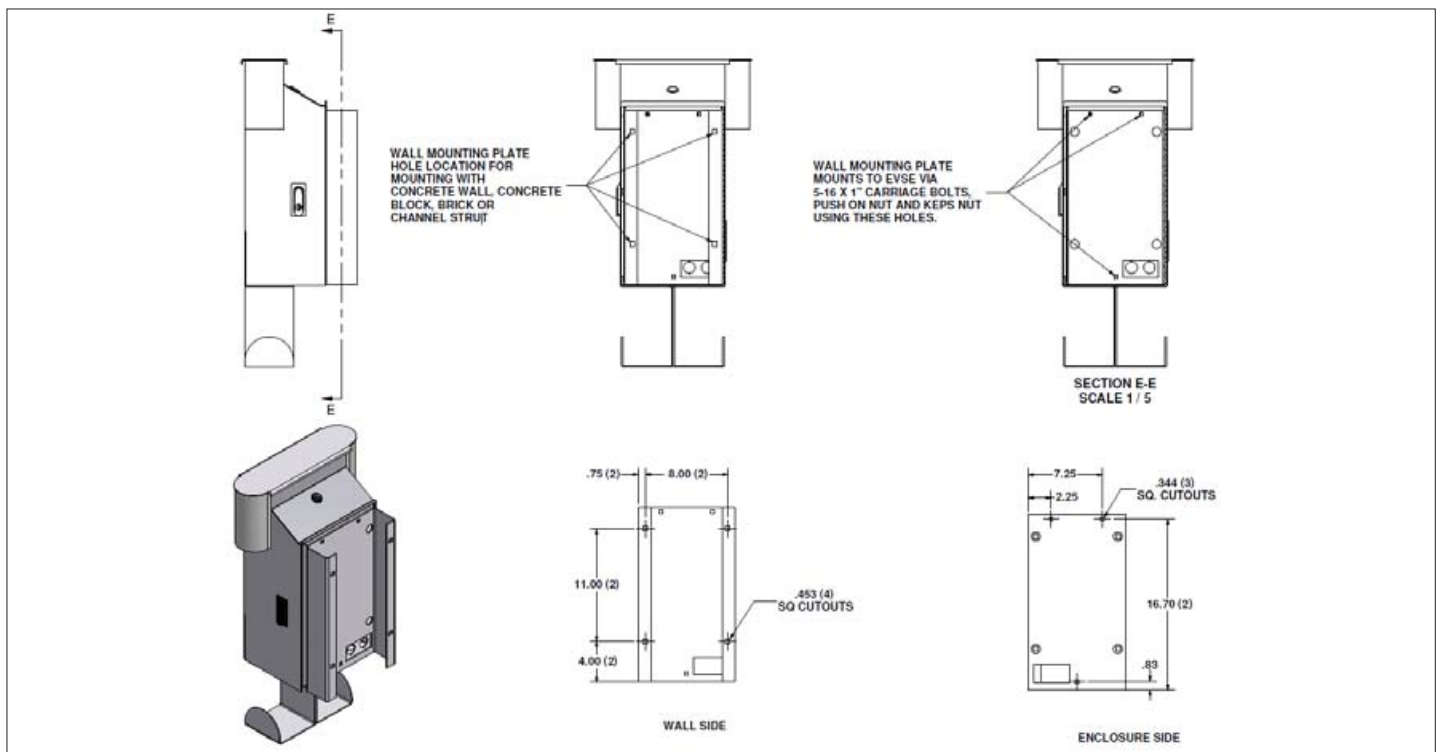

Figure 4. Unit and Mounting Plate.
- Step 1:** Remove the mounting plate from the back of the EVSE unit by placing the unit on a solid non-scratch surface and opening the unit by turning the latch on the side. Remove the three nuts on the 5-16 carriage bolts that attach the mounting plate to the unit. The location of these mounting studs can be seen in **Figure 4**. Save these nuts as they will be needed to re-attach the unit later in the installation.
Step 1: Remove the mounting plate from the back of the EVSE unit by placing the unit on a solid non-scratch surface and opening the unit by turning the latch on the side (for details, see Section 5. Instructions for Opening Door Latch). Remove the three nuts on the 5-16 carriage bolts that attach the mounting plate to the unit. The location of these mounting studs can be seen in **Figure 4**. Save these nuts as they will be needed to re-attach the unit later in the installation.